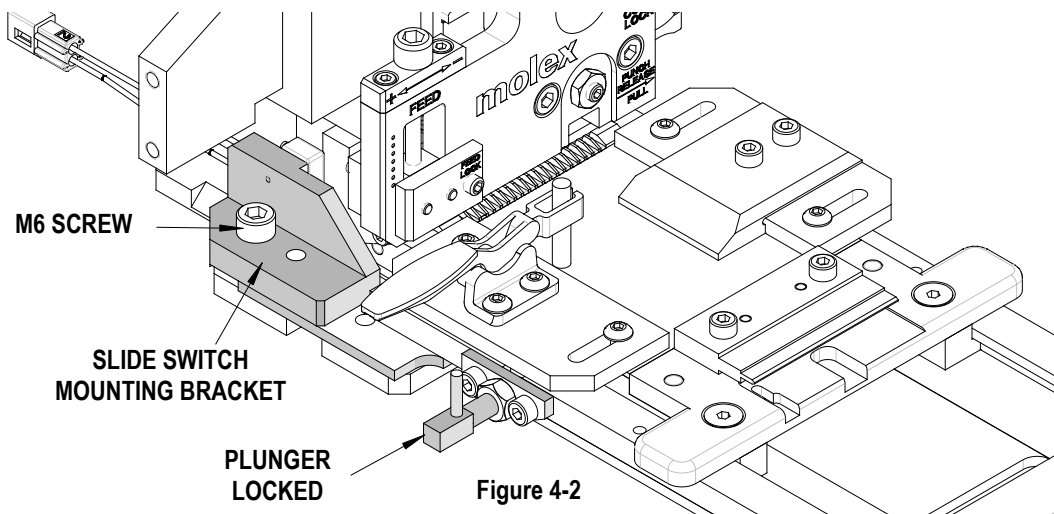

Figure 4-2
2. Loosen M6 screw holding the slide switch mounting bracket and unplug the slide switch cable. Using a test light or multi-meter, move the slide switch bracket forward or back until the switch makes contact (test light goes on or meter reads zero ohms). See Figure 4-2.